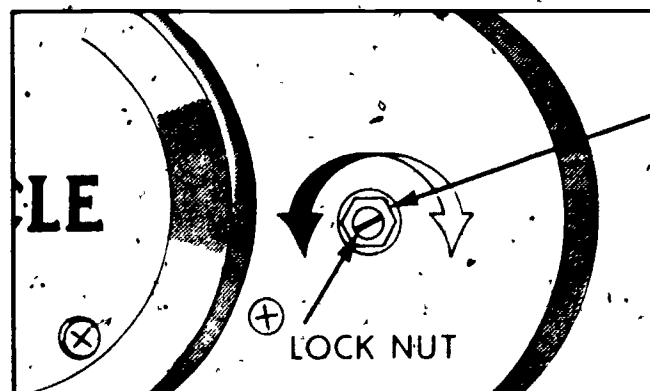

Figure 2
- F. Place clutch plates on flat surface plate one at a time, insert feeler gauge between clutch plate and surface plate to check for warpage, and compare with service manual warpage allowances (Figure 2)
- C Loosen clutch adjusting screw locknut on crankcase side cover (Figure 2)
- D. Rotate adjusting screw clockwise until a slight resistance is encountered (Figure 2)
- E. Rotate adjusting screw $1/4$ to $1/2$ turn counterclockwise and secure with locknut (Figure 2)